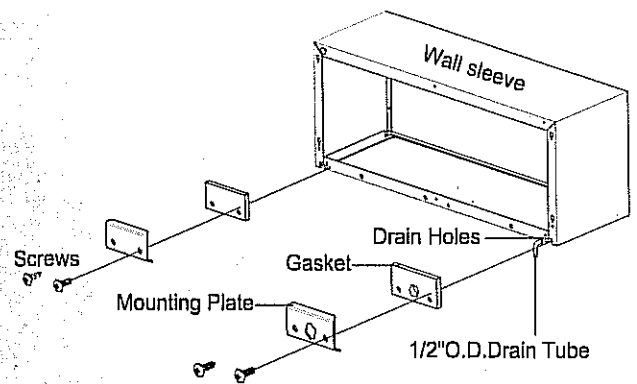

Fig.1
2. Attach the assembly with 2 screws to either the right or left flange at the rear of the Sleeve. (Fig.1) Wall Sleeve with 1/2" drain tube should be mounted so that the tube Protrudes outside from the wall surface by 1/4".